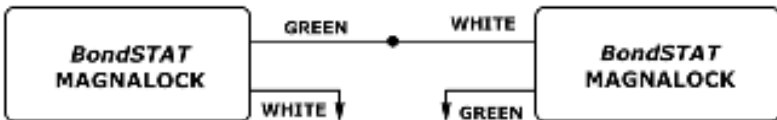

Figure 24. Double Door Status Wiring
1. CONNECT the green wire of one lock to the white wire of the other as shown in Figure 24, “Double Door Status Wiring.”